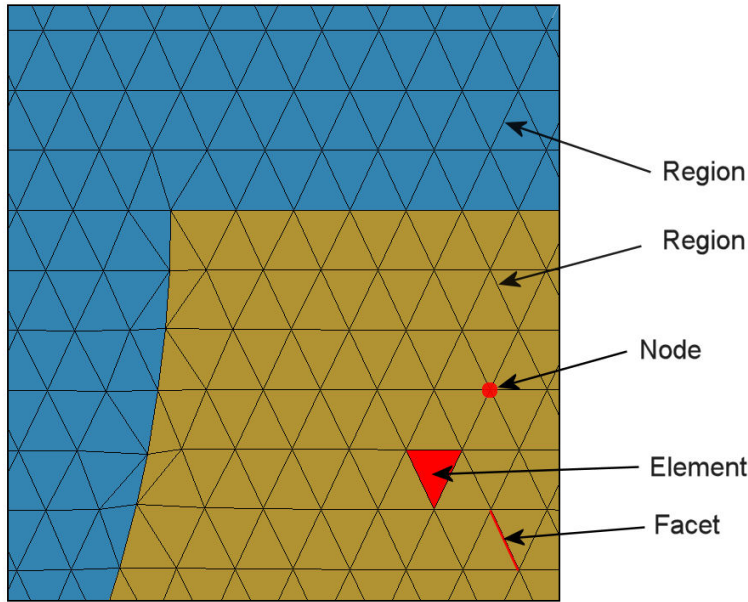

Figure 2: Conformal triangular mesh – definition of terms.
of small volumes, or *elements*. Here, the term *small* indicates that element dimensions are much less than the scale length for variations of field quantities. The division of the volume is called the *computational mesh*. Figure 2 shows the type of mesh used for the two dimensional solutions of **Pulse**. The figure defines three terms that will be used throughout this manual:
The elements in Fig. 2 have triangular cross-sections. In a planar solution, the cross-section lies in the x - y plane and the elements extend an infinite distance in the z direction. In a cylindrical solution, an element is a figure of revolution about the axis with a triangular cross-section in the z - r plane.
The mesh in Fig. 2 has the important property of *conformality*. The term means that the triangles have been specially shaped to conform to the boundaries between materials (*regions*). As a result, each element has an unambiguous material identity. The finite-element method is based on two approximations: 1) material properties in an element are uniform and 2) elements are small enough so that the field quantities can be approximated by simple interpolation functions. With these assumptions, the governing differential equation can be integrated over elements surrounding a node to yield a linear equation. This equation relates the field quantity at the node to those at the surrounding nodes. The coupled set has one linear equation for each node in the mesh. In **Pulse**, solution of the set representing the magnetic diffusion equation gives the vector potential (A_z) or stream function (rA_θ) at each node. We can then perform two-dimensional interpolations to potential values at intervening points, or take numerical spatial derivatives to find the components of the magnetic and induced electric fields.
- **Mesh** analyzes the boundary specifications and automatically generates a set of conformal triangles such as those of Fig. 2. The program creates an output file that lists the locations of nodes and the identities of elements.